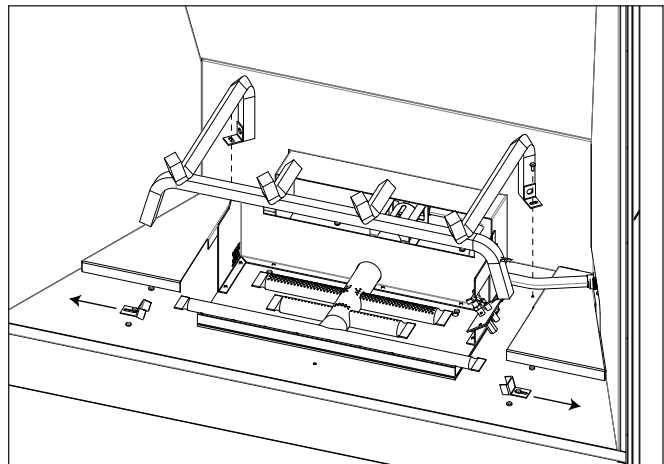

Figure 9: Log Grate Removal
6. Remove the Log Grate by removing the two (2) T-20 screws at the rear of the grate and loosening the two screws holding the log grate clamps in place near the front of the grate (see Figure 9).